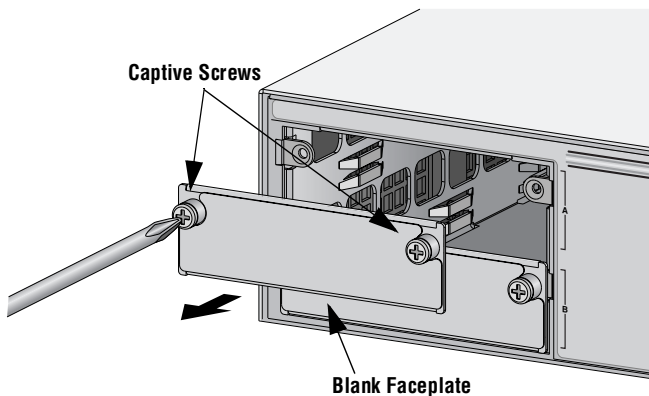

Figure 1 Removing a Blank Faceplate
2. Using a Phillips-head screwdriver, remove a blank faceplate from one of the expansion slots on the front panel of the switch by unscrewing the faceplate's two captive screws. Refer to Figure 1.